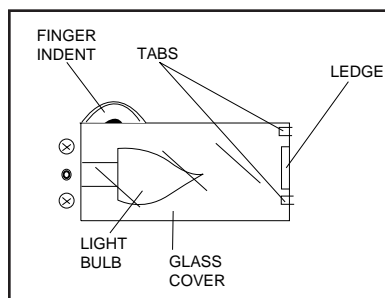

Figure 14
4. Carefully push Glass Cover all the toward the right (away from screws). Place your index finger into Finger Indent and carefully lift Glass Cover out. See Figure 14.
6. Replace Glass Cover. Be sure Glass Cover fits between the ledge and the two small tabs as shown in Figure 14.